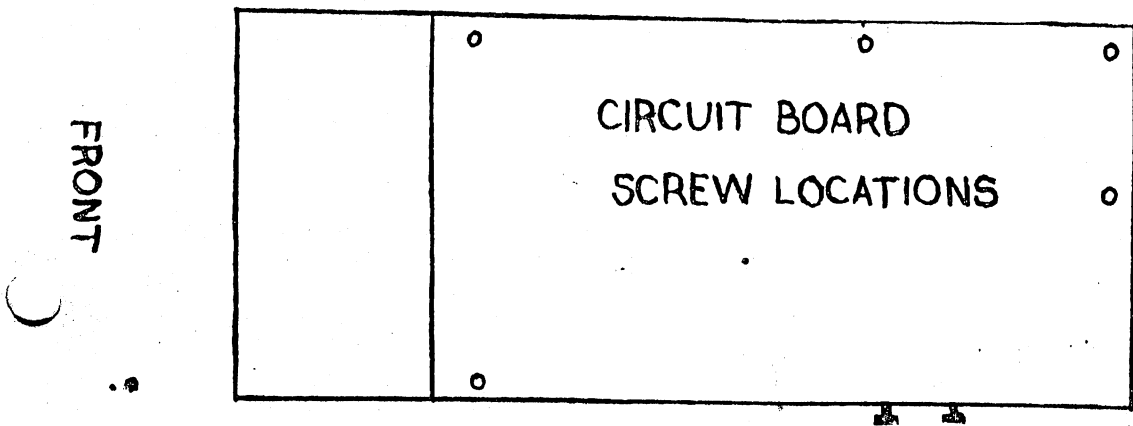

FIG. 2 TOP VIEW
- c). Place the disk drive in the normal position (right side up, and the front facing you). Remove the screws that attach the circuit board to the frame (see figure 2).